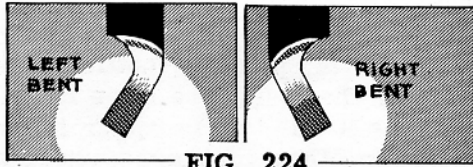

FIG. 224
-A bent tool has the point bent to the left or right to make its operation more convenient. These tools are called left-bent tools if the point is bent to the left when looking at the tool from the point end with the face upward and the shank pointing away, and vice versa (Fig. 224).